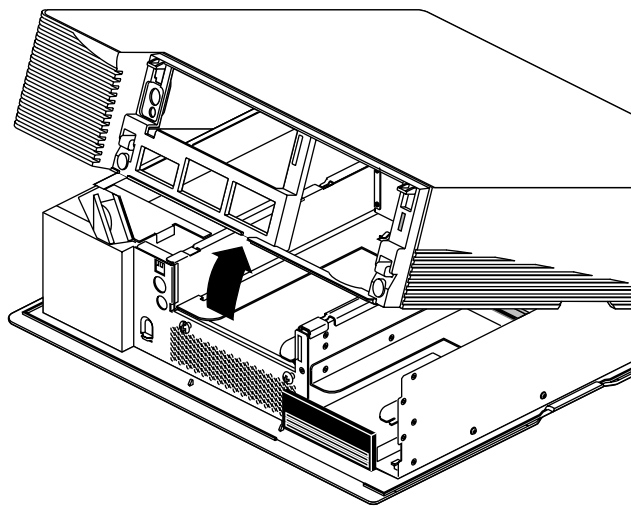

Figure 3-6 Removing the Top Cover
- Pull up on the cover and lift it back and away from the chassis, as shown in Figure 3-6.